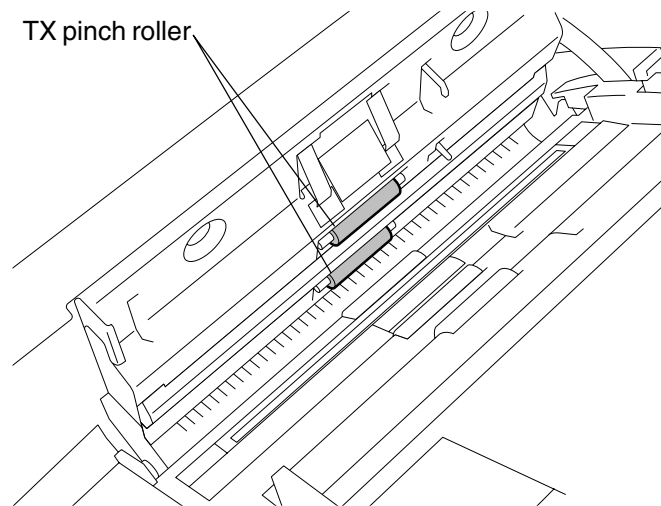

Fig. 10-2-4
4. Tx pinch roller (refer to Fig.10-2-4)